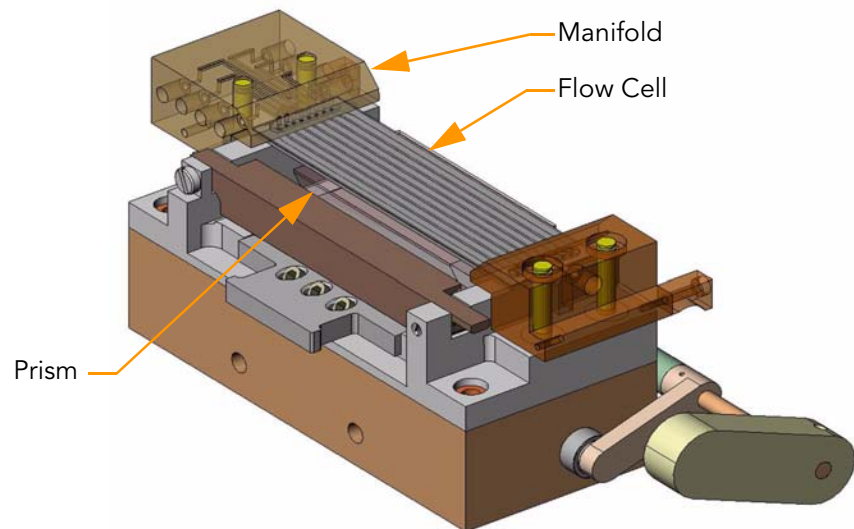

Figure 71 Flow Cell and Prism Loaded
6. Press downward on both manifolds to ensure they have seated properly (Figure 71).